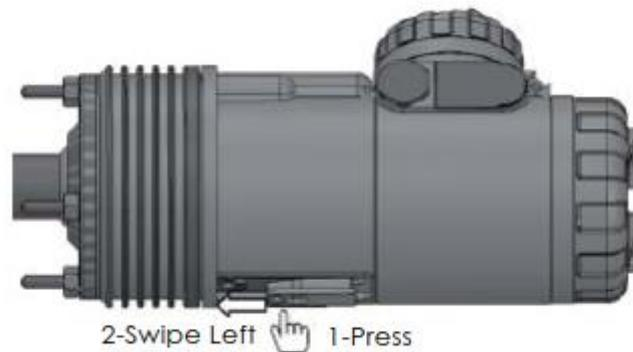

Figure 8
6.3 Installation Operation Process - Figure 8
Before adjusting the DLC3010 level controller, press and hold the arrow position slider and slide it in the direction of the arrow to the other end, and the slider enters the positioning slot to lock (Figure 8).